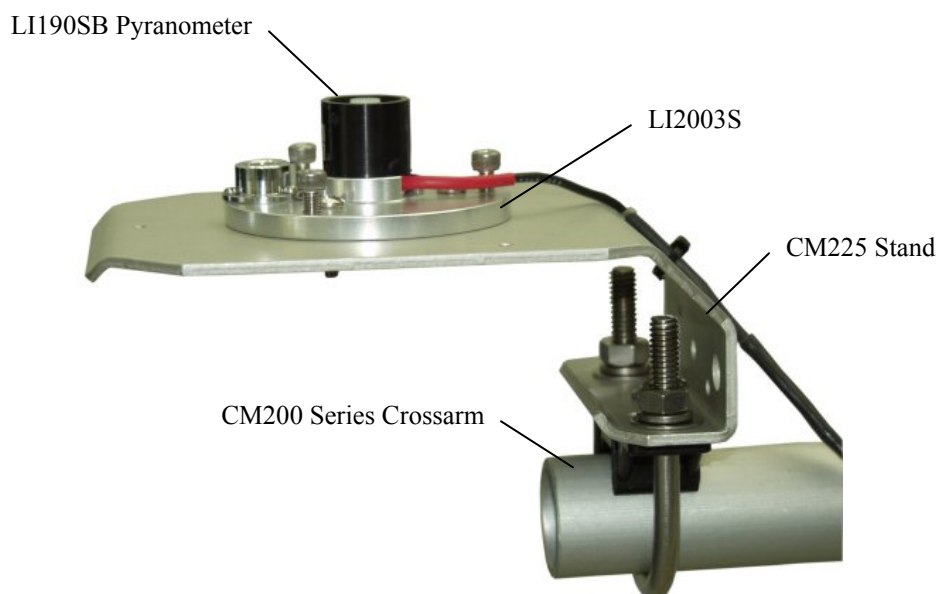

FIGURE 3-1. *CM225 Pyranometer Mounting Stand and CM202 Crossarm*
To ensure accurate measurements, the LI190SB should be mounted using LI2003S base/leveling fixture. This base incorporates a bubble level and three adjustment screws. The LI190SB and base/leveling fixture are attached to a tripod or tower using one of three mounting configurations (see Figure 3-1 through 3-3).
- 1/2" open end wrench for 015ARM or CM225 (Figures 3-1, 3-2)